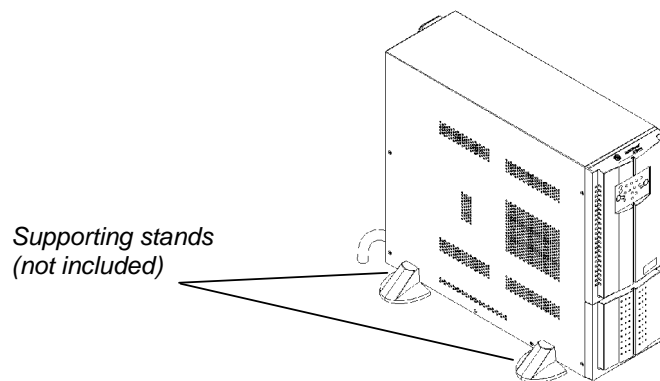

**Fig. 2**
6. The installed UPS/PDU system should be similar to the system shown in Fig. 2.